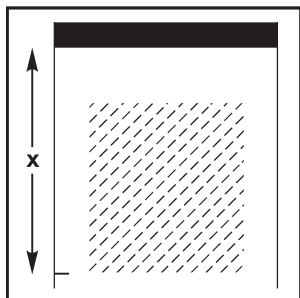

Figure 1
1. Determine approximately where the base of the legend or symbol should be positioned (see Figure 1).